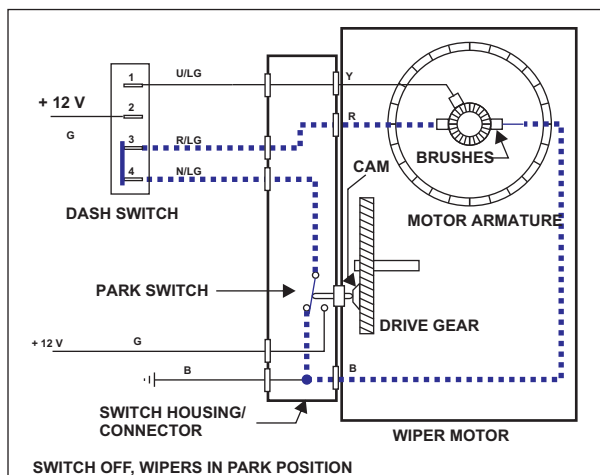

FIGURE 8
D) WIPERS OFF, BLADES IN THE PARKED POSITION: Refer to **figure 8**. When the drive gear has rotated to the point that the blades are in their parked position, the cam button on the drive gear depresses the parking switch plunger, operating the switch. Now, rather than the 12 volts as before, ground is applied to the low speed brush, shorting out the armature windings.